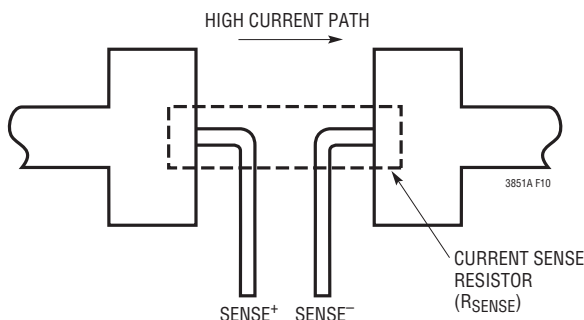

Figure 10. Kelvin Sensing R_{SENSE}
- Are the SENSE⁻ and SENSE⁺ leads routed together with minimum PC trace spacing? The filter capacitor between SENSE⁺ and SENSE⁻ should be as close as possible to the LTC3851A. Ensure accurate current sensing with Kelvin connections as shown in Figure 10. Series resistance can be added to the SENSE lines to increase noise rejection and to compensate for the ESL of R_{SENSE} .
- Keep the switching node (SW), top gate node (TG) and boost node (BOOST) away from sensitive small-signal nodes, especially from the voltage and current sensing feedback pins. All of these nodes have very large and fast moving signals and therefore should be kept on the *output side* (Pin 9 to Pin 16) of the LTC3851AEGN and occupy minimum PC trace area.